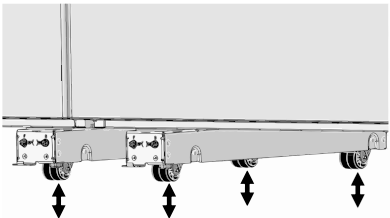

Fig. 1
1. If you use the dual installation trim kit, install the levelers on the units before installing the heater (Fig. 1).